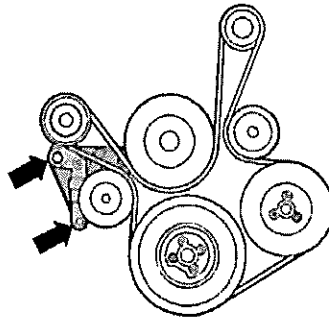

Fig 20 Ribbed V-belt (FEAD) - removing tensioning element
72 Unscrew mounting bolts (see Fig 20).
75 Using brace / counter-hold tool 800.1.56.005.1 to loosen and tighten (to 160 Nm + ½ (180°) additional turn), renew the central screw (see Fig 21 (6)) for the vibration damper (see Fig 20 (4)).